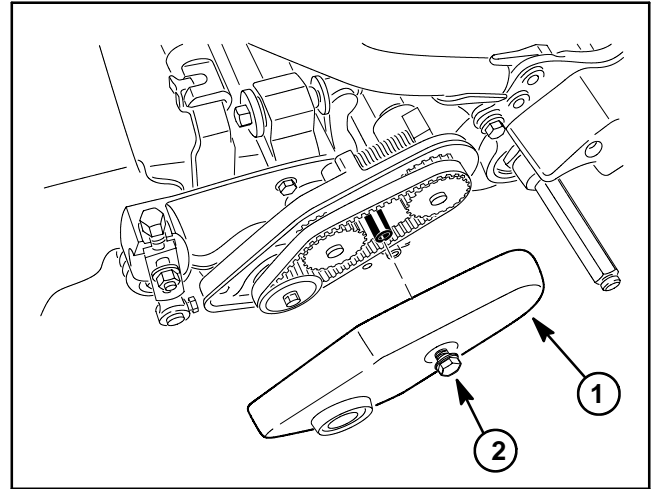

Figure 11
2. Remove reel drive cover to expose reel drive belt (Fig. 11).
7. Install reel drive cover to machine and secure with flange head screw (Fig. 11).